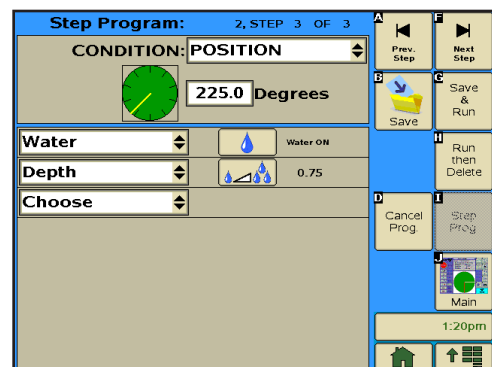

Figure 126-2
10. Program the position condition for this step. Refer to Figure 126-2.